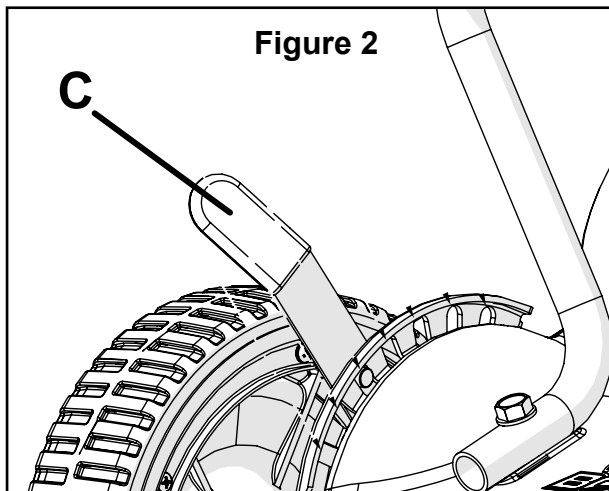

Figure 2
3. Set the height of cut with the wheel height adjuster **C** to the desired level. **Figure 2**